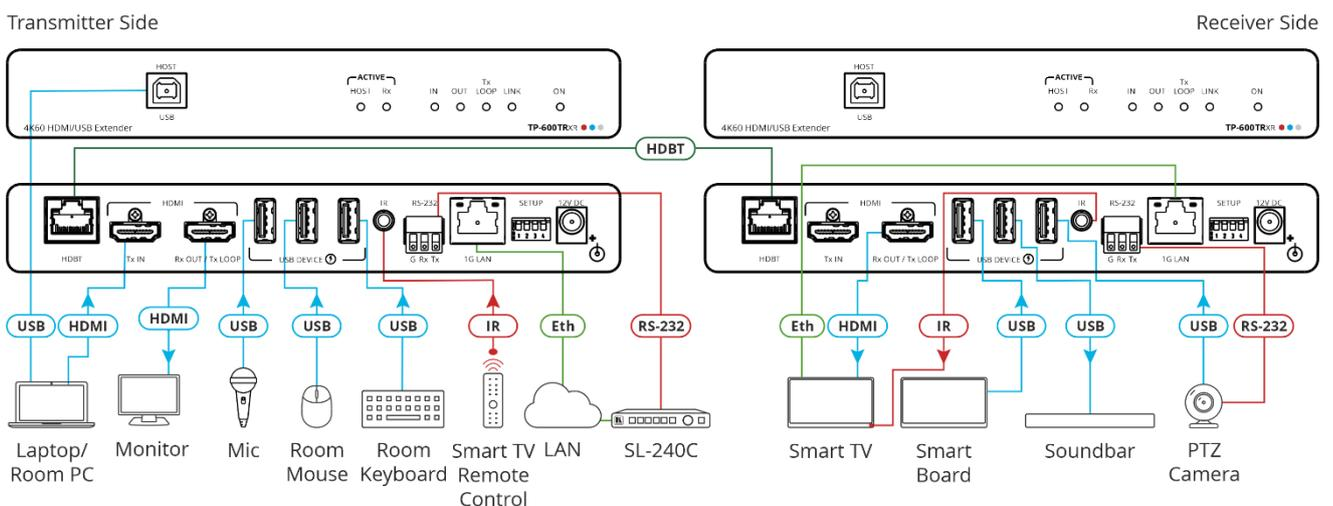

Figure 5: Connecting to TP-600TRxr
**To connect TP-600TRxr as illustrated in the example in Figure 5:**
1. Use the DIP-switches (14) to define one device as a transmitter and the other as a receiver (see Setting the DIP-Switches on page 11).
2. Connect the HDBT port (9) on the **TP-600TRxr** transmitter side to the HDBT port (9) on the **TP-600TRxr** receiver side.
3. On the **TP-600TRxr** transmitter side, connect an HDMI source (for example, a laptop) to the HDMI Tx IN connector (10).
4. On the **TP-600TRxr** transmitter side, connect the HDMI Rx OUT/Tx LOOP connector (11) to an HDMI acceptor.
5. On the **TP-600TRxr** receiver side, connect the HDMI Rx OUT/Tx LOOP connector (11) to an HDMI acceptor (for example, a smart TV).
10. Connect the power adapter to **TP-600TRxr** and to the mains electricity (not shown in Figure 5).
To connect TP-600TR as illustrated in the example in Figure 5:
9. Connect the power adapter to **TP-600TR** and to the mains electricity (not shown in Figure 5).